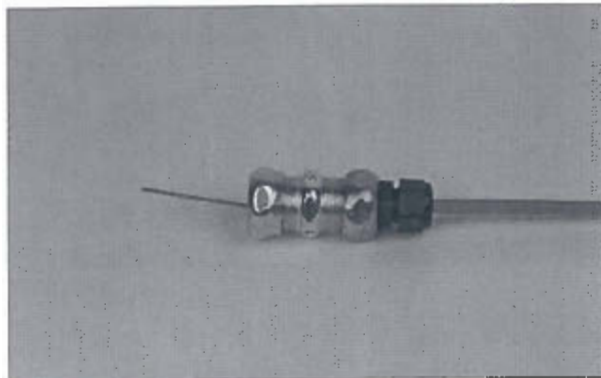

FIGURE 95
5. Push flexible conduit into strain relief until it is approximately 1/16 in. (2 mm) from the bottom of the flexible conduit insert, then tighten strain relief nut onto strain relief body. See Figure 95.